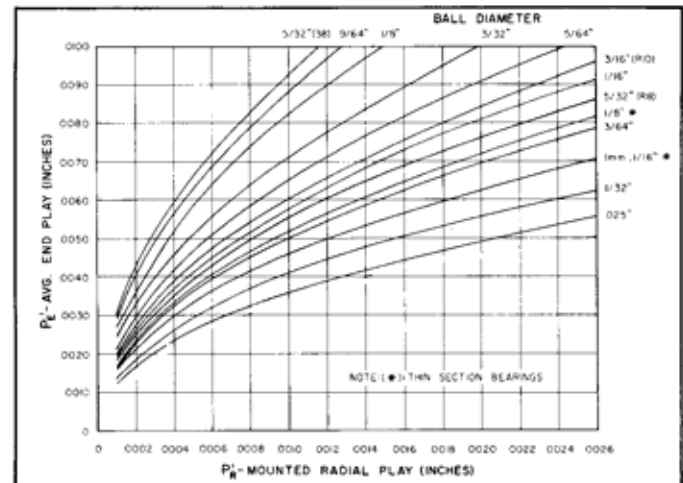

Figure 5
The total raceway curvature (B) is a constant for each series of MPB bearings. Therefore, the end play versus radial play relationship may be plotted for each ball size (See Figure 5). When using this curve to determine end play in an application, the "mounted" radial play value must be used.